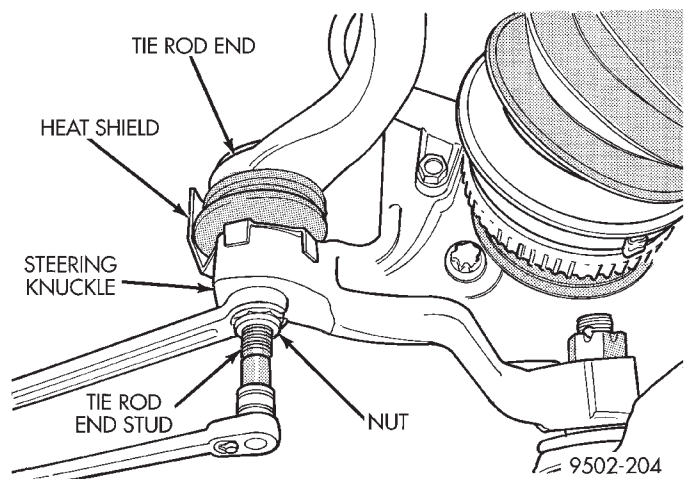
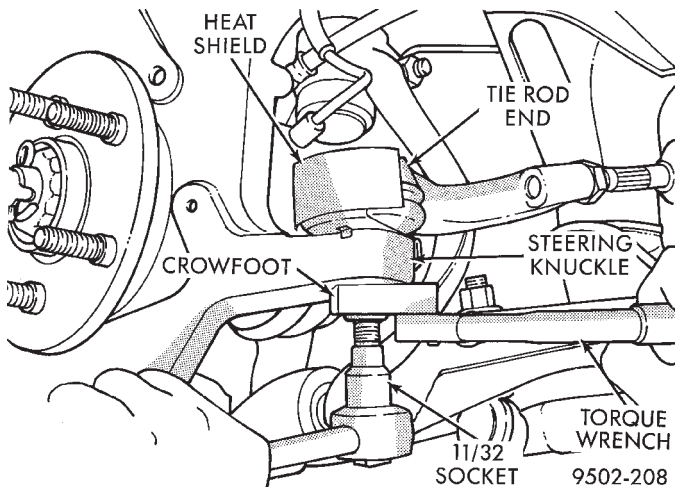

Fig. 28 Tie Rod End Attaching Nut
Fig. 37 Torquing Tie Rod End Attaching Nut
(3) Remove nut attaching the outer tie rod end to the steering knuckle (Fig. 28). **Nut is to be removed from tie rod end using the following procedure, hold tie rod end stud with a 11/32 socket while loosening and removing nut with wrench (Fig. 28).**
(4) Install the tie rod end into the steering knuckle. Start the tie rod end to steering knuckle attaching nut onto stud of tie rod end. While holding stud of tie rod end stationary, tighten tie rod end to steering knuckle attaching nut (Fig. 28). Then using a crowfoot and 11/32 socket tighten the attaching nut to a torque of 61 N·m (45 ft. lbs.) (Fig. 37).